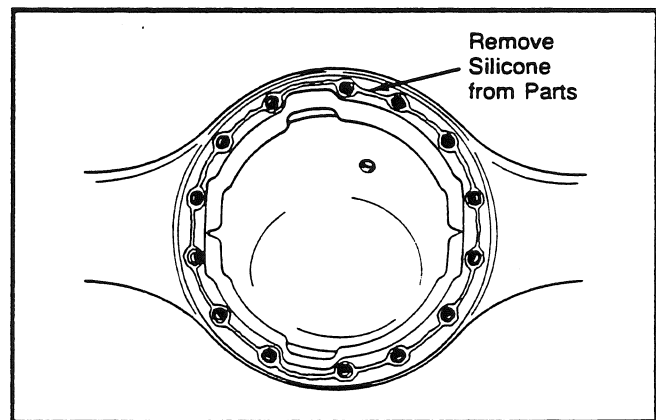

Fig. 4
- d) Clean parts and apply new silicone sealant P/N 56427 where required when final drive is assembled (see Fig. 4).